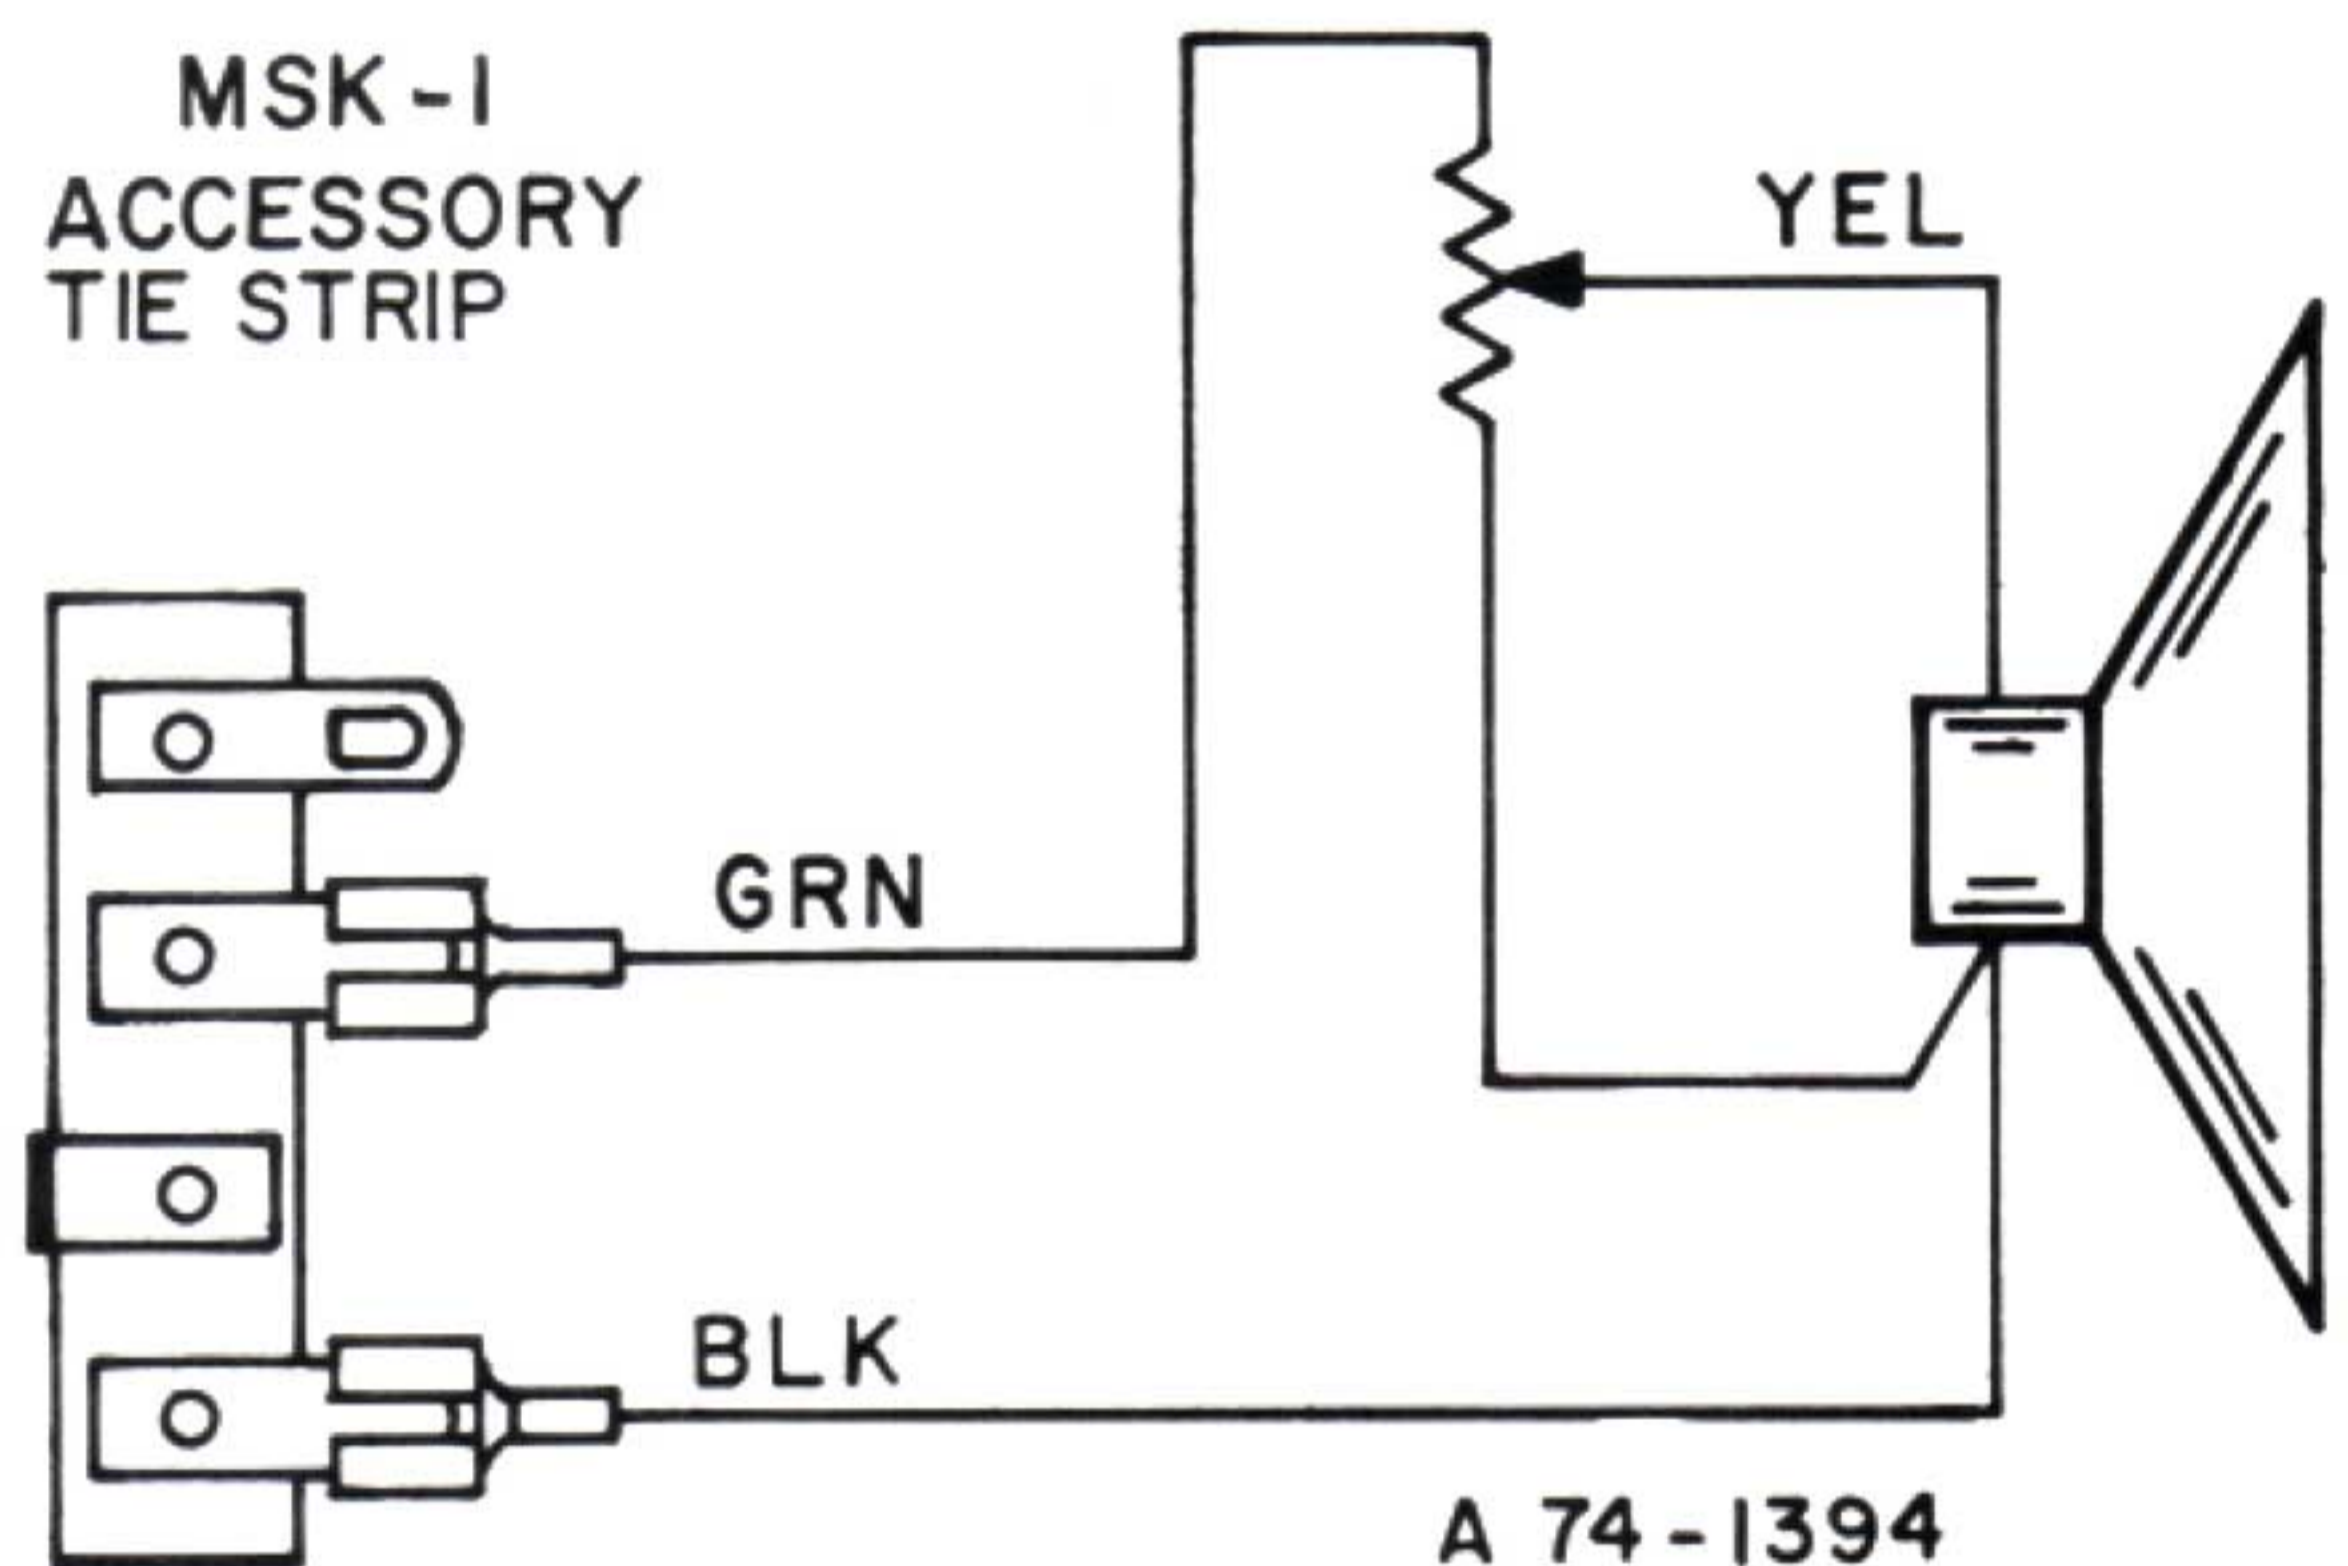

Figure 2 - Connecting MSK-1 Accessory to Tie Strip
8. Clip the push-on leads from the MSK-1 speaker to the accessory tie strip on the amplifier chassis, as shown in figure 2. Connect the green lead to the center lug of the tie strip. The black lead goes to the end lug to which the black wire from the amplifier is soldered.